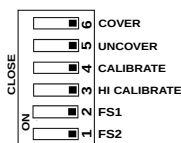

Figure 9: DIP Switch
- Unscrew the cover and ensure that all DIP switches are in the OPEN position as shown in Figure 9. Make sure that the status LED is not blinking for error.
- Unscrew the cover and make sure that all DIP switches are in the OPEN position as shown in Figure 9. Ensure that the STATUS LED is not blinking for error.